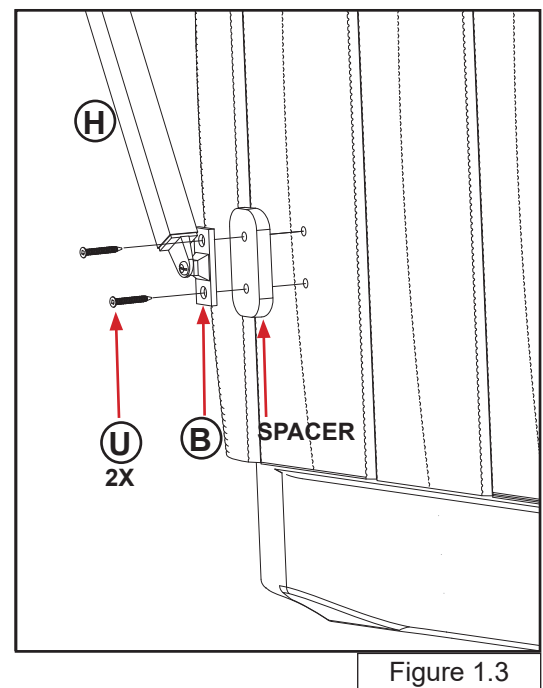

Figure 1.3
Making sure to align the holes on the Side Hinge to the holes on the spacers, secure the Side Hinge (B) and spacer to the spa cabinet using (2) of the Flat Head Screws (U) (Figure 1.3). Bag # 2 (#10 2" Flat Head screws).